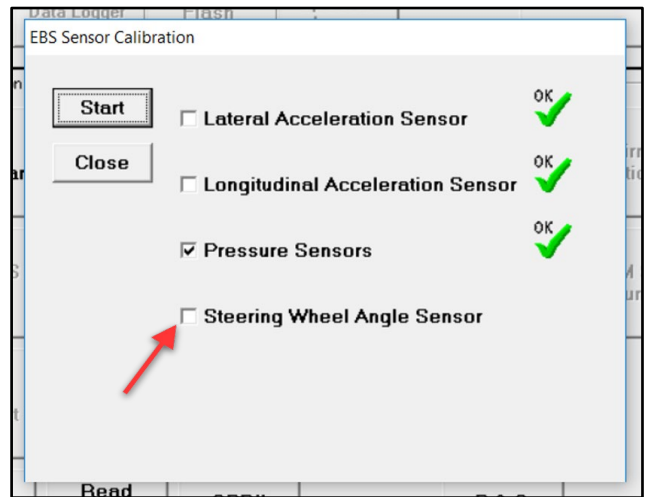

Figure 17
27. Select "Steering Wheel Angle Sensor" (refer to Figure 17).